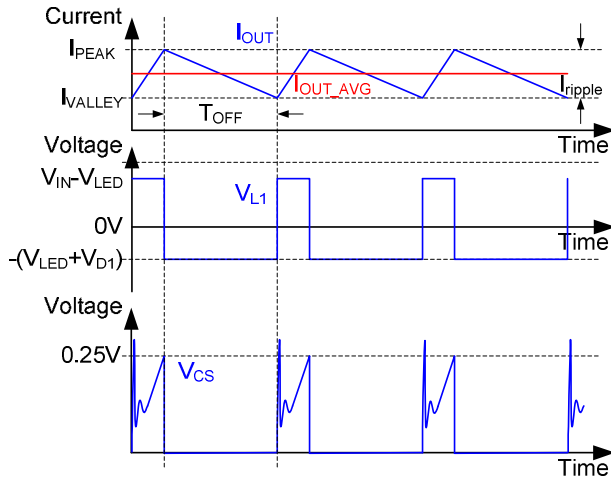

Figure-5 The waveforms of V_{CS} , V_{L1} and I_{OUT} that shown in the Figure-1.
GR8210 operates with the peak current sensing and the constant off time. The peak current sensing and the line voltage compensation align the peaks of V_{CS} identically to determine the same I_{PEAK} that shown in the Figure-5. The I_{VALLEY} was determined by the T_{OFF} . GR8210 provides an off time setting function via connect a resistor from R_T to GND. A simple way is connect R_T to VCC directly to use the default off time that the value is approximately $9.3\mu s$.
The (2) and (3) were generated according to the Figure-5. They usually used to determine the inductance of the power inductor.
Where, the I_{OUT} is output current that user defined, the K . is the percentage of I_{OUT} to estimate the worse case and the value usually is range of 20%~40%. Beside, the maximum rate current and saturation current of the inductor must greater than the I_{PEAK} that shown in the Figure-5.
Two specifications of freewheel diode must be considered, the maximum reverse voltage must be greater than maximum voltage across the diode. The average rectified current also must be greater than I_{PEAK} that shown in the Figure-5. The ultra fast diode is recommended to use as the freewheel diode.